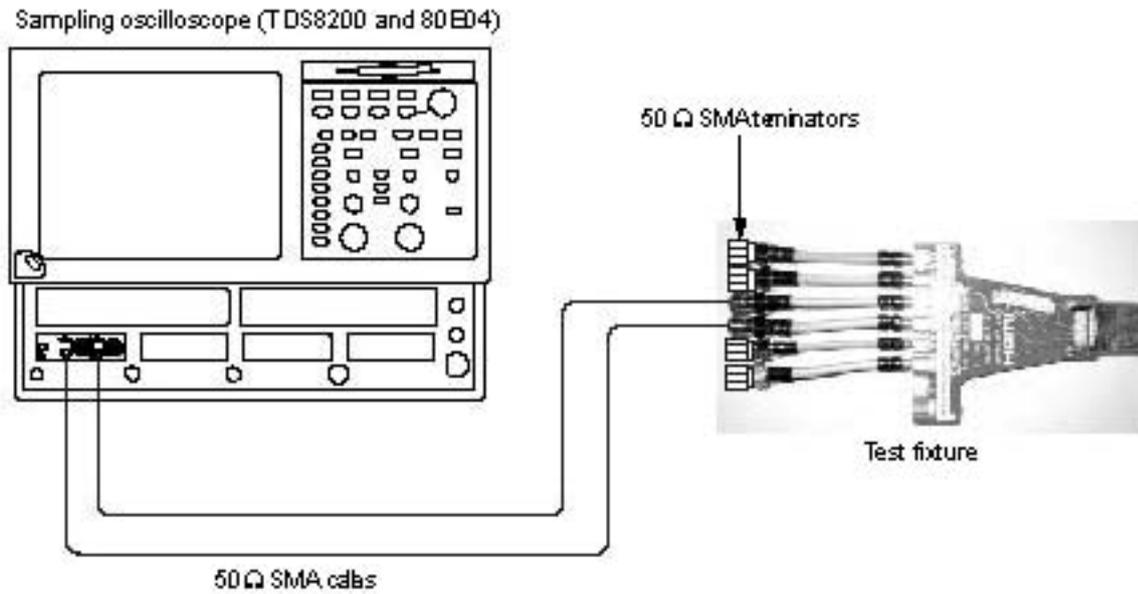

Figure 2 Initial equipment connections for the differential impedance measurement
1. Use the 50  $\Omega$  SMA cable to connect the CH1 connector on the sampling module and the DATA0\_P connector on the test fixture (see Figure 2).
2. Use the 50  $\Omega$  SMA cable to connect the CH2 connector on the sampling module and the DATA0\_N connector on the test fixture (see Figure 2).
3. Use the 50  $\Omega$  SMA terminators (male) to terminate the unused connectors on the test fixture (see Figure 2).